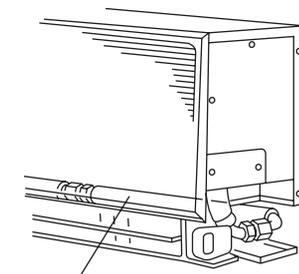

Fig. 3-52
- (c) Using the L-shaped tube (field supply), connect tubing between the indoor and outdoor units. (Fig. 3-52)